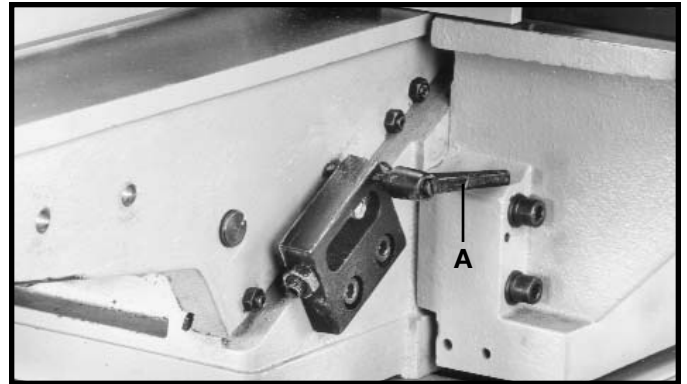

Fig. 34
1. To raise or lower the infeed table, loosen table lock handle (A) Fig. 34, located on the rear side of infeed table.
**CAUTION** Always make sure table lock handle (A) Fig. 34, is tightened before operation. The table lock handle (A) is spring-loaded and can be repositioned by pulling out the handle and repositioning it on the serrated nut located under the handle.